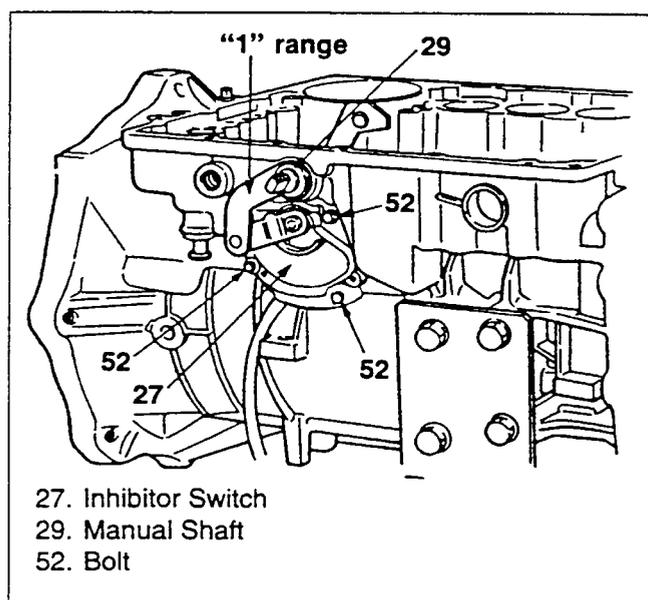

Figure 239. Inhibitor Switch Installation (1)
Inhibitor Switch (Figures 239, 240 and 241)
1. Set manual shaft to range “1” (figure 239).